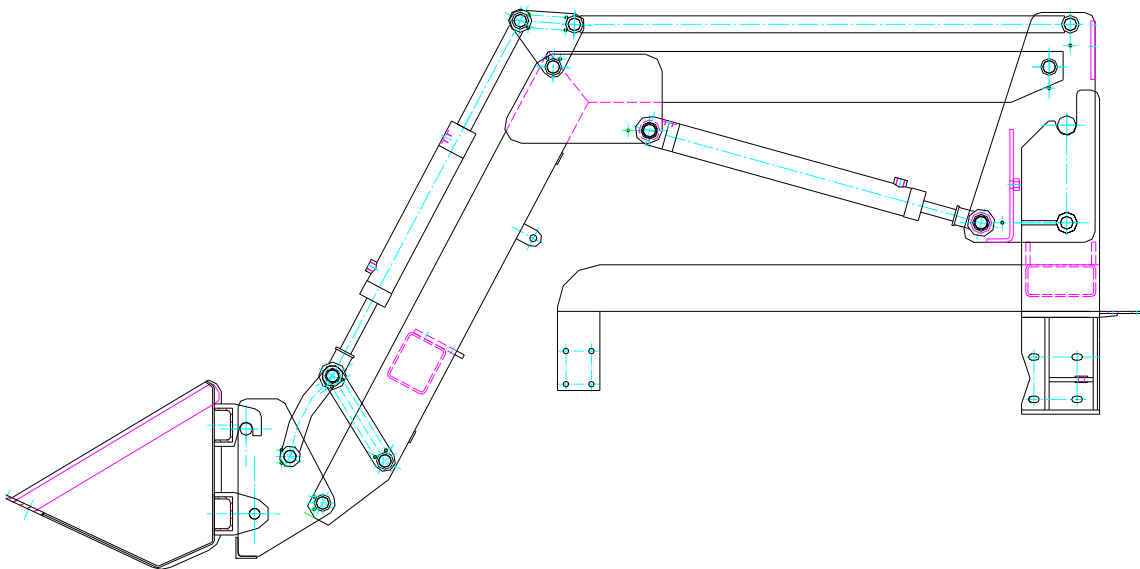

Fig.2-6 Model D (quick-link between lift arm and vertical column, lift arm and bucket (lift and drop parallel))
2.1.5 Model D (As shown in Fig.2-6)